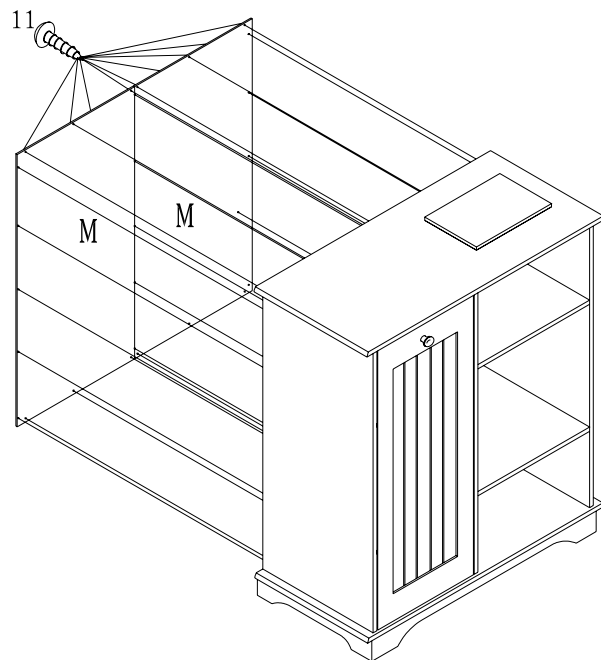

FIGURE 6
10. ATTACH BACK PANELS (M) INTO SLOT ON REAR EDGES OF PARTS (F, G, H, J, K). TIGHTEN PAN HEAD WOOD SCREWS (11) THROUGH PREDRILLED HOLES ON BACK PANELS (M) INTO PREDRILLED HOLES ON REAR EDGES OF PARTS (F, G, H, J, K). AS FIGURE 6 SHOWN.